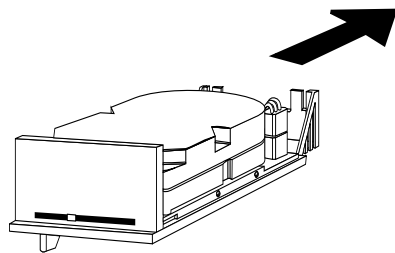

Figure 4-4 Holding Drive to Install in a Front Slot
4. Pick up the drive so the two plastic guide pins on the back are on the top half of the drive and facing away from you, as shown in Figure 4-4.